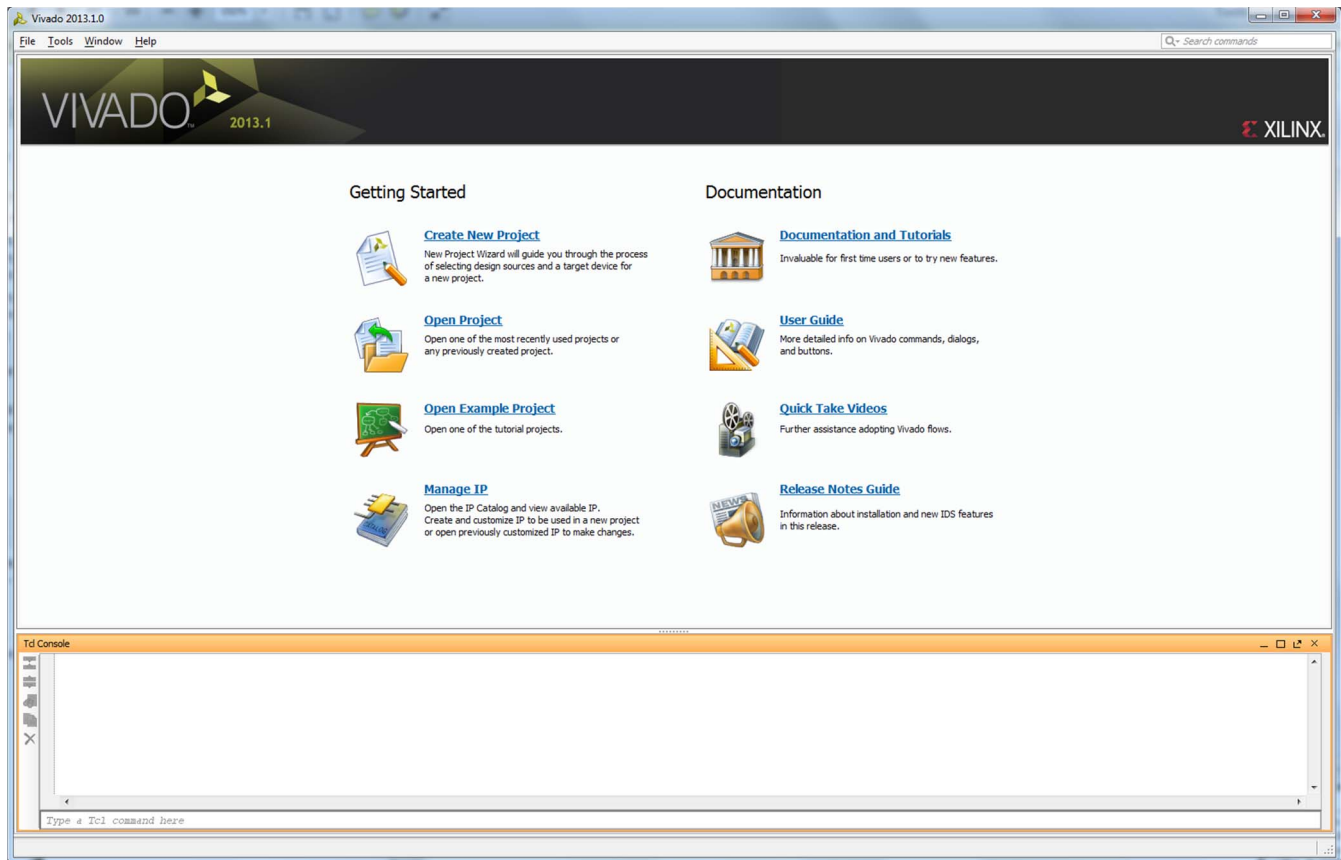
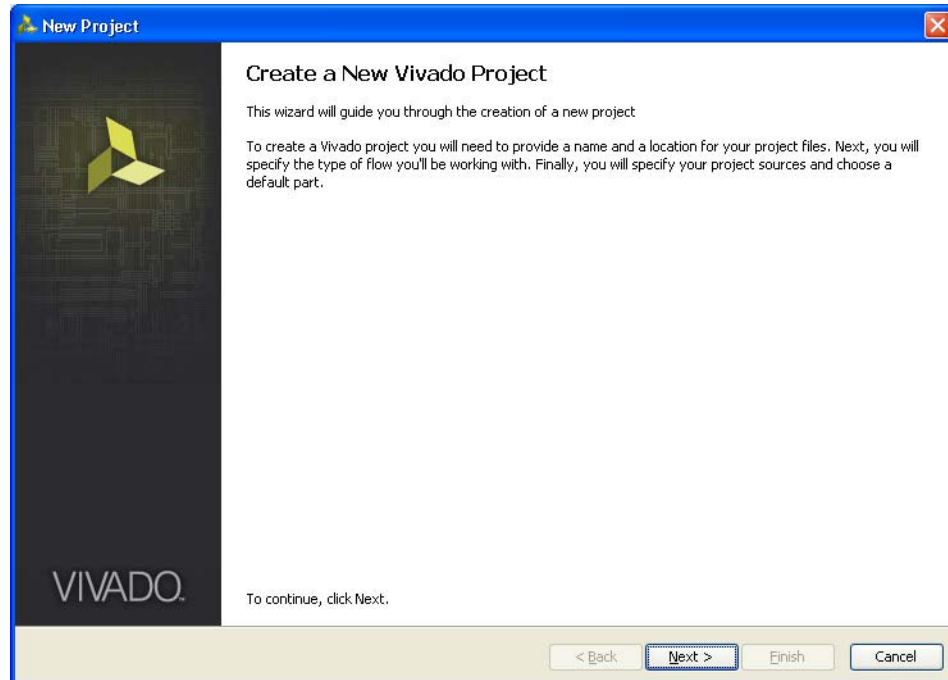

Figure 4-1: Vivado Design Suite
Figure 4-2: Create a New Vivado Tool Project
1. Start the Vivado Design Suite (see Figure 4-1).
2. To create a new project, click the **Create New Project** option shown in Figure 4-1 to open the page as shown in Figure 4-2.